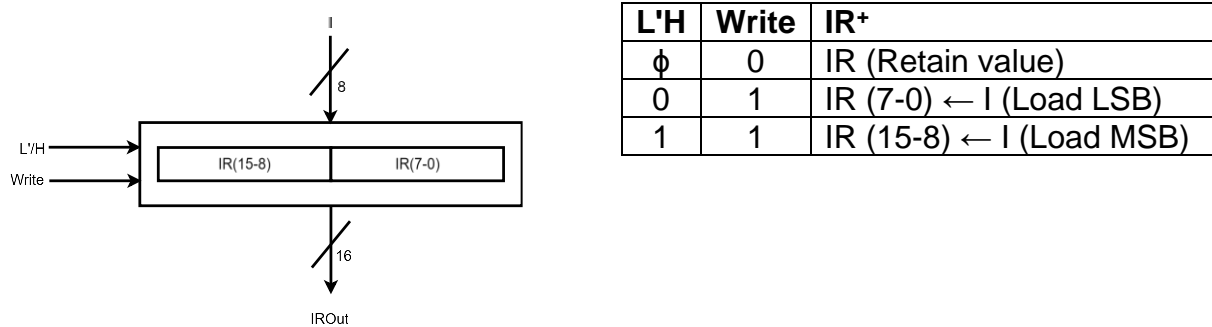

Figure 3: Graphic symbol of IR register and its characteristic table, respectively.
(Part-2a) Design a 16-bit **Instruction Register (IR)** register whose block diagram and function table are given in Figure 3. This register can store 16-bit binary data. However, the input of this register file is only 8 bits. Therefore, using the 8-bit input bus, you can load either the lower (bits 7-0) or higher (bits 15-8) half. This decision is made by the **L'H** signal.